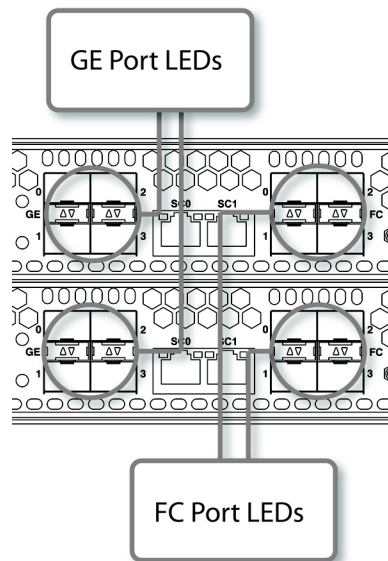

Figure 6-5 Module Status LEDs
Step 3: The GE and FC port LEDs (see Figure 6-5) on the NAS Blades should be glowing steadily green when operating normally. Table 6-2 describes the GE and FC LED states.